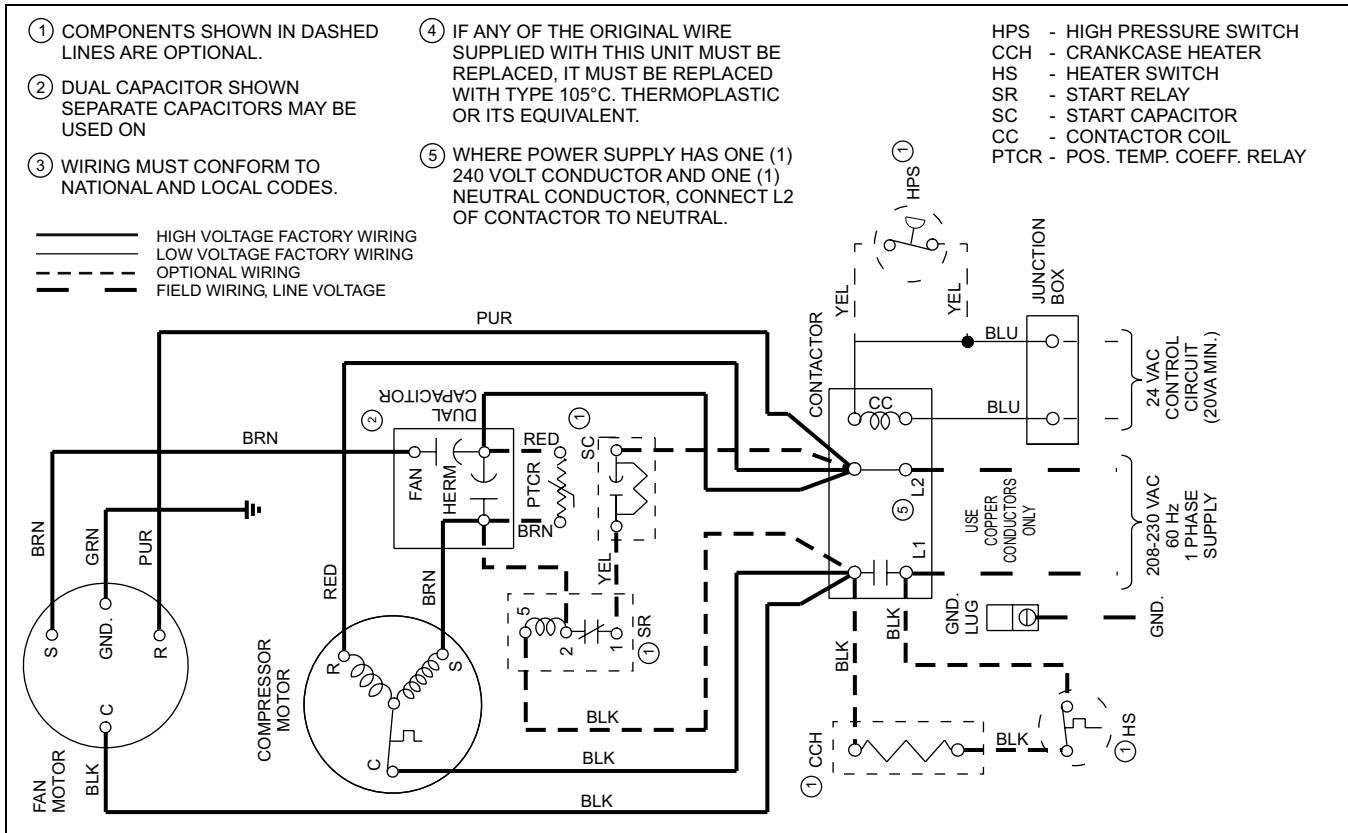

FIGURE 10
6. Attach the brown lead wire from the starting kit relay #2 to the same terminal on the dual capacitor which was located in Step 4. See Figure 10.
NOTE: The wiring of the capacitor and relay must agree with Figure 10. Also, see diagram on control box cover.